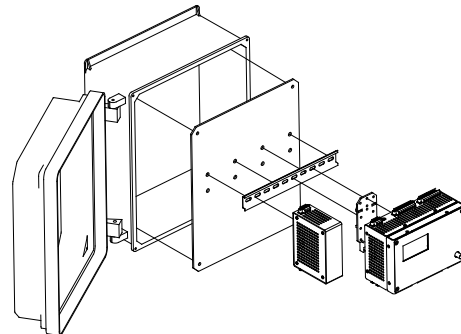

Figure 4: 1900/55 Replacement Kit
- 04 1900/55 replacement kit (see Figure 4)